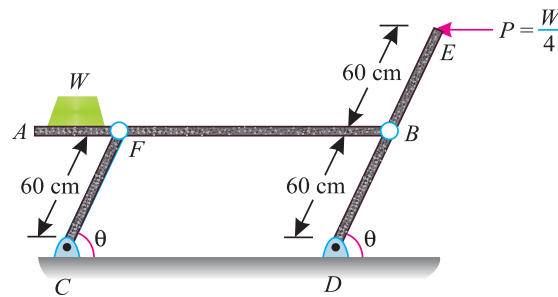

Fig. 16.26.
4. A structure, with pin-jointed member is shown in Fig. 16.26.